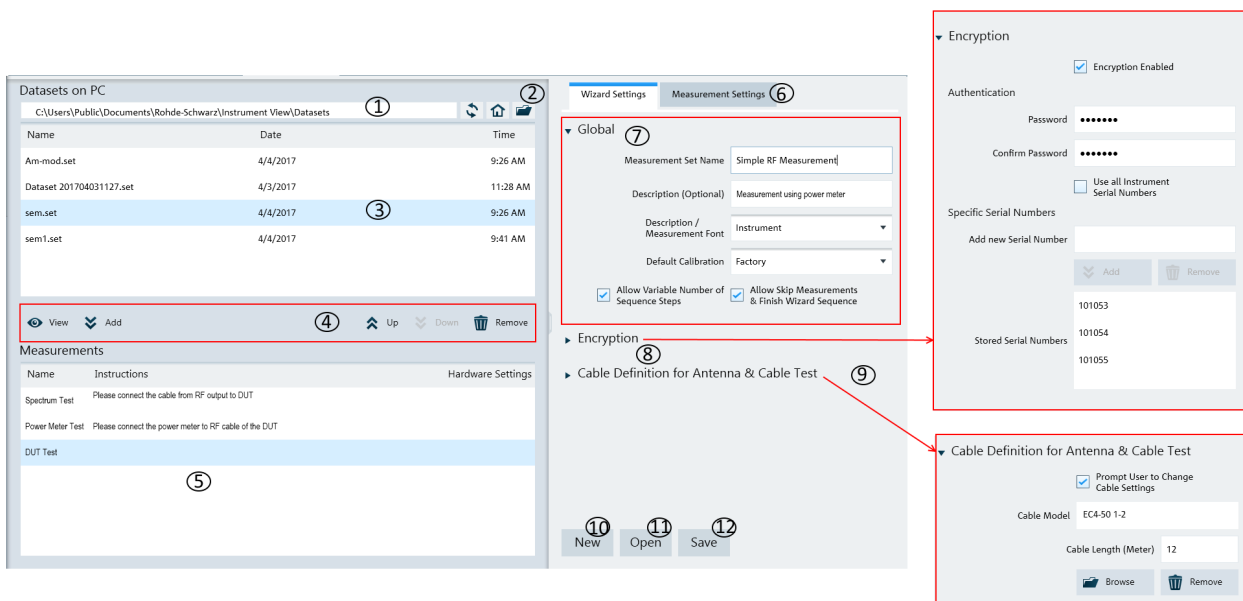

Figure 4-32: Wizard editor
The measurement table list forms the measurement sequence in the wizard set. See item 5 in Figure 4-32
The "Wizard " editor allows you to open, edit and save the measurement wizard set. See Figure 4-32.
To arrange the measurement sequence in the wizard set, double clicked or "Add" the desired dataset from the PC folder directory to the measurement table list. See index 4 and 5 of Figure 4-32.
Navigate from the list of datasets in the measurement table list (see index 5 of Figure 4-32) and select the desired dataset for configuration.